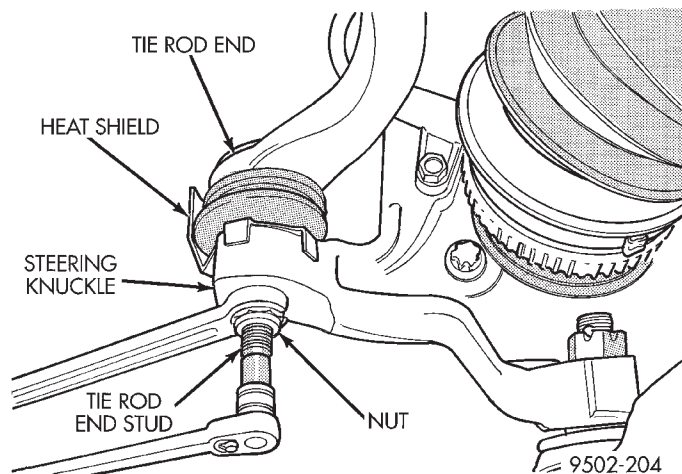

Fig. 18 Tie Rod End Attaching Nut loosening and removing nut with wrench (Fig. 18).
(10) Remove nut attaching outer tie rod end to the steering knuckle (Fig. 18). **Nut is to be removed from tie rod end using the following procedure, hold tie rod end stud with a 11/32 socket while**